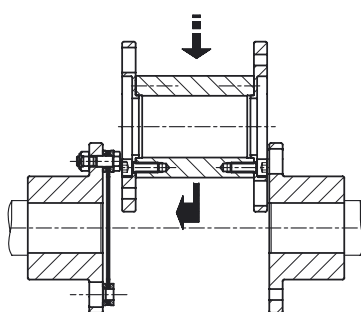
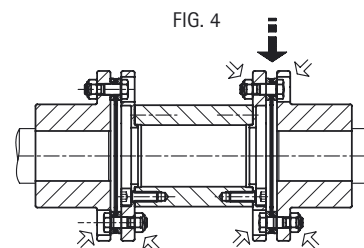

FIG. 3
FIG. 4
- 4.1.5 Install the spacer (4) between the hubs and connect it to the already assembled disc-pack (3) with screws (2) and nuts (5), in the direction shown on the fig. 3 (in case of long spacer, it is essential to support the spacer in position from the beginning to the end of the assembly). Tighten to torque T mentioned in the tabulation while holding the screws still and turning the nuts.
- 4.1.5 Ensure that both hub faces (8) and (9) and sandwich flange (1.3) are perfectly degreased. Introduce floating assembly between the two hubs (fig. 3). Remove the shipping screws (15) with rings (17) and shipping inserts (16) at each end (fig. 4). The floating assembly must be maintained in position by the two hubs (8) .